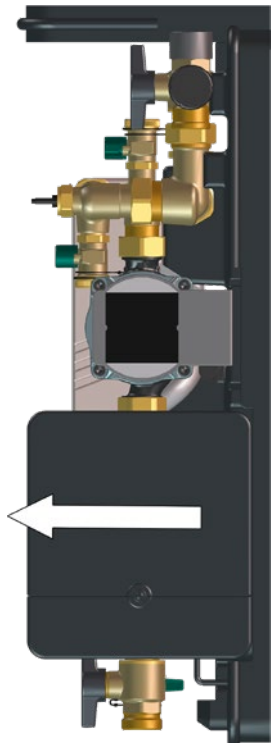

Fig. 20: Removal of the controller from the lower shell
- 1 Carefully pull the controller off the lower shell as shown in Fig. 20 on page 26.
- 11 Put the controller back from the mounting position to the operation position (see Fig. 20 on page 26).